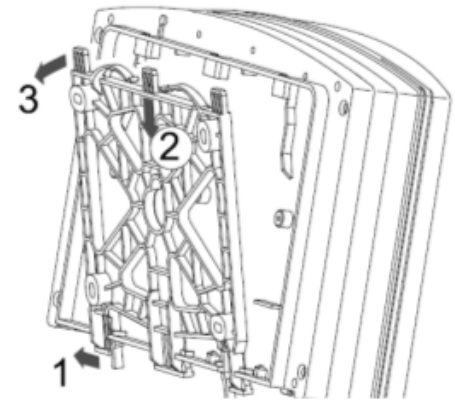

Figure 7A Removing the Wall Bracket
1. Remove the wall bracket from the housing (Fig. 7A)
2. Press the two snap hooks (1) outwards